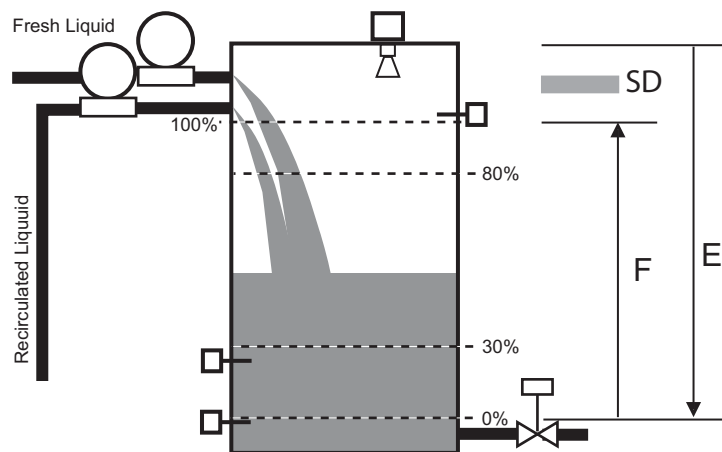

Fig. 5-1: Calibration parameters of Micropilot M level transmitter
Fig. 5-1 shows the basic calibration parameters. For all other parameters the default values will be accepted, i.e. in our case the default value for suppression distance (SD) will be used, i.e. the associated parameter PARSUPPRESSIONDISTANCE will not be changed (default = 0.1 m).